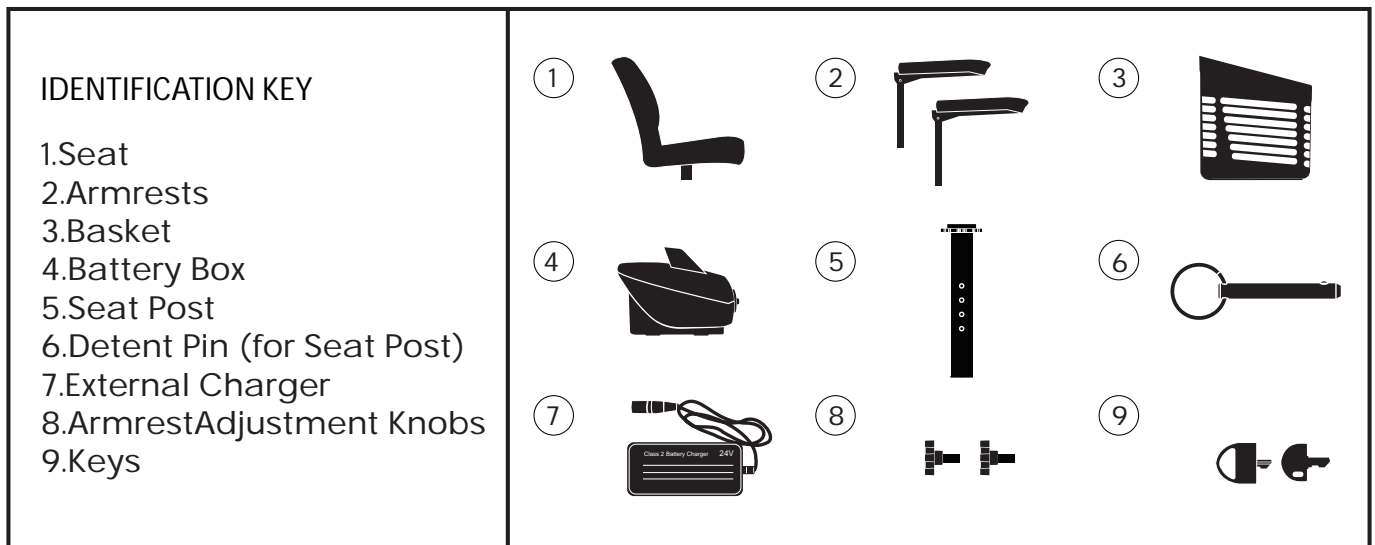

Figure 17
1. Please put all the parts after disassembling into the original carton from us to insure the safe transportation (see figure 17).